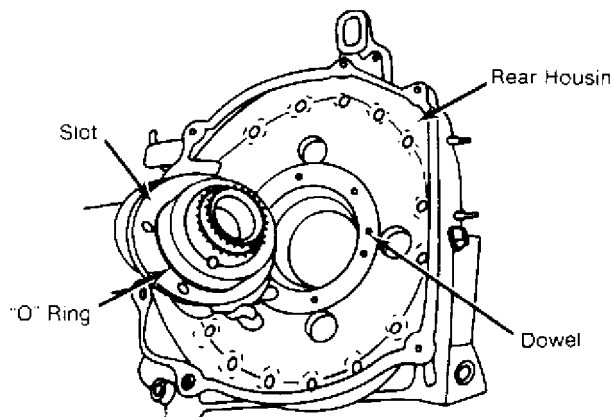

Fig. 9: Aligning Stationary Gear Slot & Dowel
11) Install new bearings while aligning tang bearing with a slot of stationary gear. Press bearing into gear until adapter of mandrel just contacts stationary gear flange. Install the stationary gear into the housing, aligning the slot of the gear flange with the dowel pin on the housing. See Fig. 9.